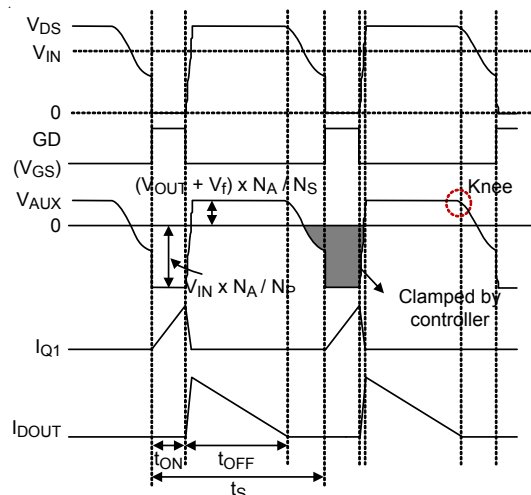

Figure 3. Key Waveforms of a Flyback Converter
The RT7304 needs no shunt regulator and opto-coupler at the secondary side to achieve the output current regulation. Figure 3 shows several key waveforms of a conventional flyback converter in Quasi-Resonant (QR) mode, in which V_{AUX} is the voltage on the auxiliary winding of the transformer, t_{ON} is the conducting time of Q1, t_{OFF} is the conducting time of D_{OUT}, t_S is a single switching period, N_P is the turns number of primary winding and N_S is the turns number of secondary winding. When the secondary side current I_{DOUT} drops to zero, a knee point on V_{AUX} can be detected and t_{OFF} can be determined. The average output current (I_{OUT}(t)) can be derived by :